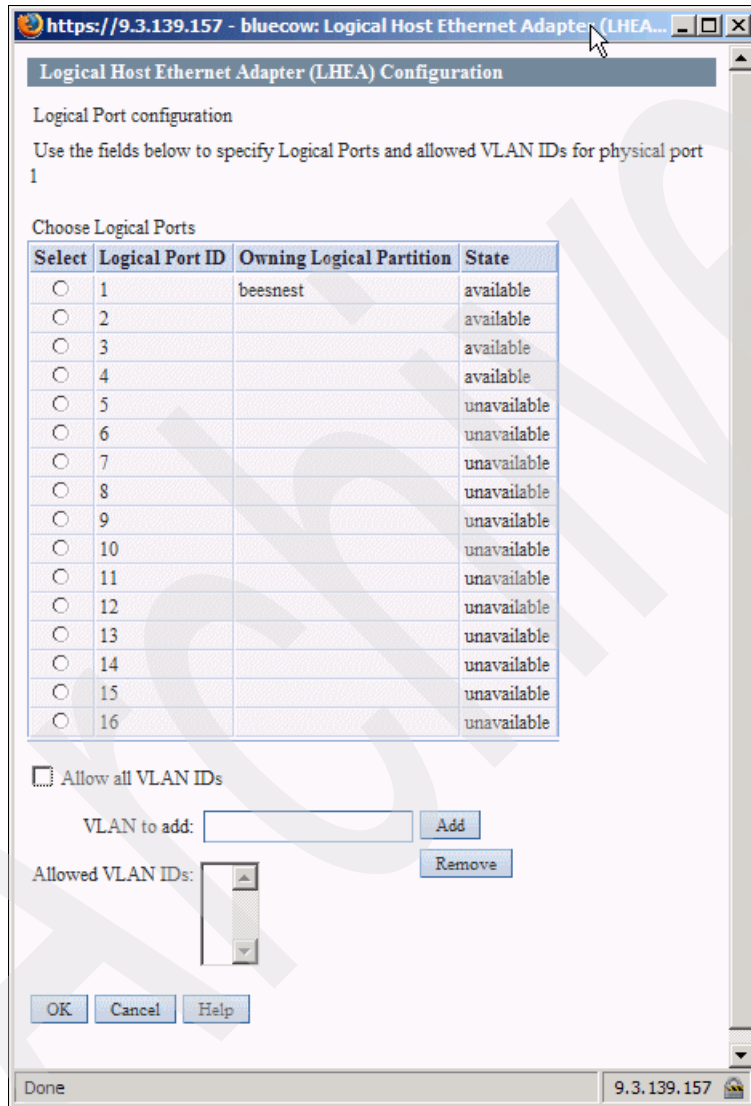

Figure 8-4 Window to specify VLAN IDs
3. In the Logical Host Ethernet Adapter (LHEA) Configuration window, shown in Figure 8-4, set the logical port to accept packets with any virtual LAN ID (VLAN ID) or to accept only packets with specific VLAN IDs: